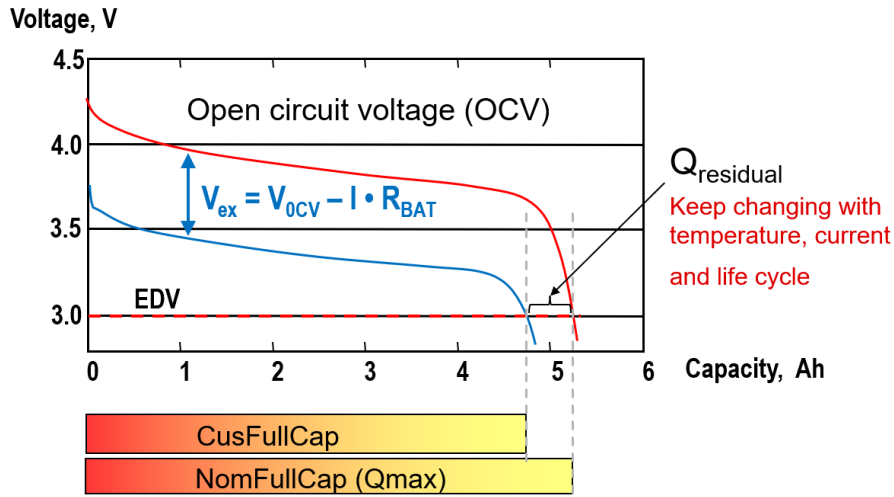

Figure 2-1. Battery Discharge Pattern
The Figure 2-1 shows a battery discharge pattern for a one-cell LiCO2 battery and the related concept we want to introduce. The red line represents the open circuit voltage (OCV), which means the potential difference between the positive electrode (PE) and the negative electrode (NE) when no current flows and the electrode potentials are at equilibrium. For OCV, it normally can be treated to equal to battery voltage after resting the battery for 1-2 hours. The Blue line means the runtime cell voltage (Vcell). As the battery has internal resistance, you will see a voltage drop between OCV and Vcell with a constant load.
Equation 2 is used to runtime output NomAbsSoc and Figure 2-1 is used to periodically calibrate NomAbsSoc. After two more calibrations, you can get the delta capacity and delta NomAbsSoc. Then, you can calculate the NomFullCap, as shown in Equation 4. Actually, after knowing NomFullCap, Equation 2 can work with acceptable accuracy.